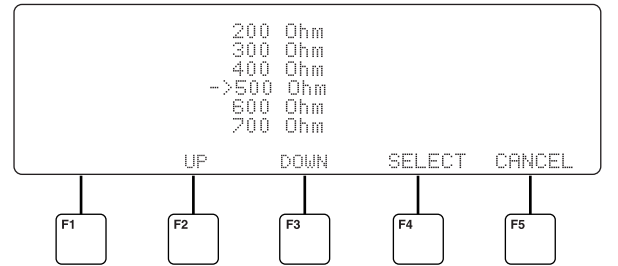

Figure 25. Load Options
4. Press **SELECT LOAD (F1)** to display the load options shown in Figure 25.